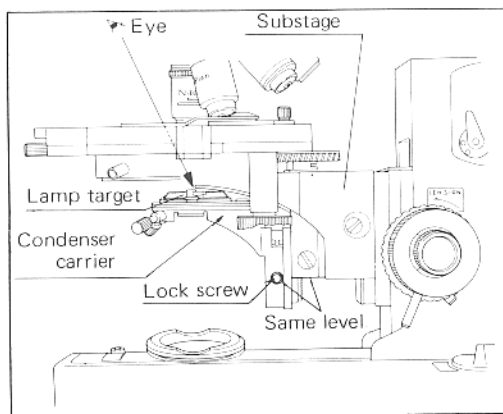

Fig. 12
- 4) Turn the condenser focus knob to lower the condenser carrier so that the lock screw is at the same level as the bottom surface of the substage, as shown in Fig. 12.